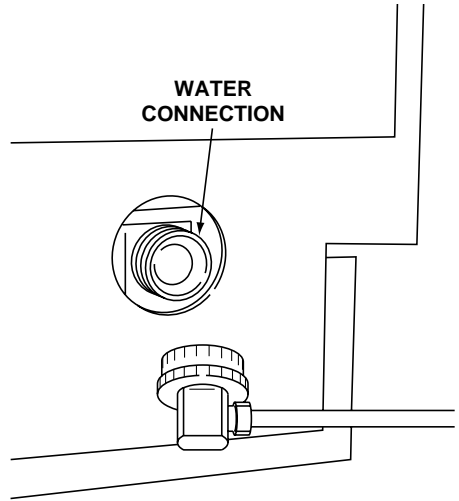

Figure 5
3. Carefully bend the water supply line into position and connect the line to the solenoid valve (see Figures 5 and 6). Avoid kinking the water supply line.